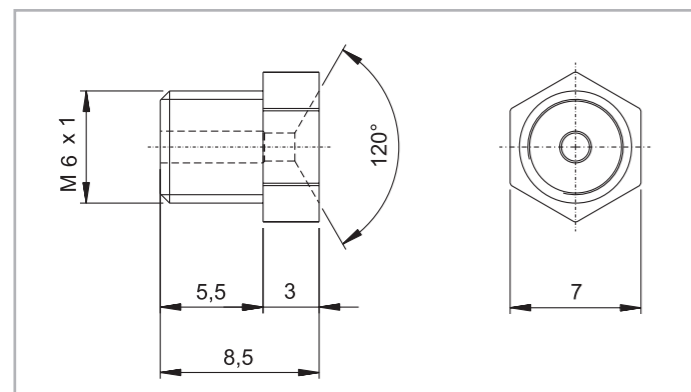

Fig. 24
- This provides a progressive release of lubricant (see tab. 36) on the raceway during operation of the slider. The expected service life is up to 2 million cycles, depending on the type of application. The zerk fittings (see fig. 24) provide the lubrication.